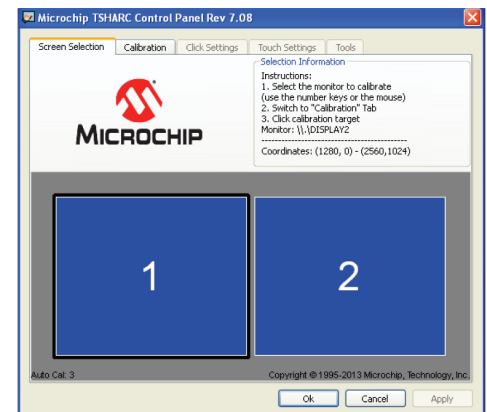

Figure 6
1. The Controller installation program opens to the Screen Selection tab with a graphic representation of Displays installed (Figure 6)